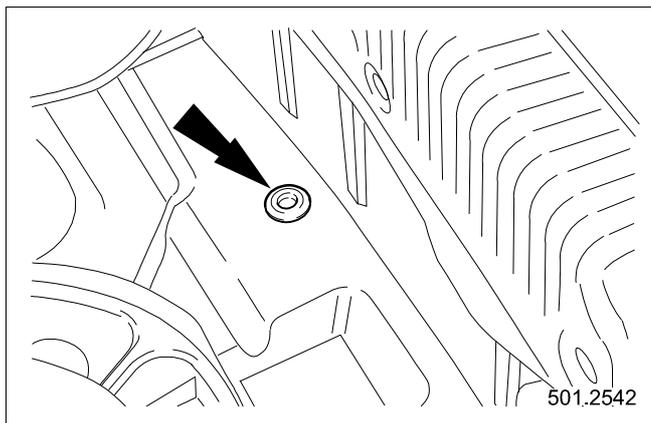

Fig. 16
- 5 Displace, remove and discard the blanking grommet at the rear of the luggage compartment floor. (See Fig. 16)